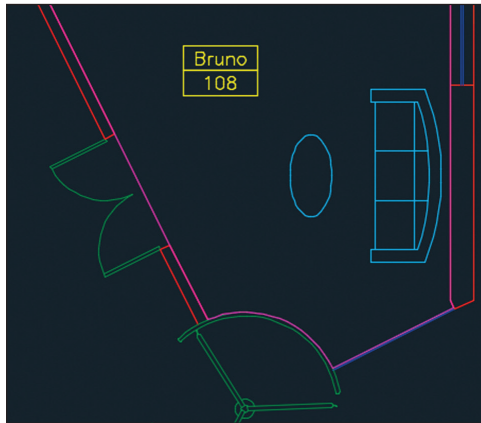

FIGURE 15.14 Inserting a block and entering its attribute values
3. Click a point in the center of the room on the upper right. Press Enter to accept the default of 0 degrees if prompted to specify a rotation angle. In the Edit Attributes dialog box that appears, type **Bruno** in the Employee Name text box and type **108** in the Identification Number text area. The block reference appears in the room with the values you typed in (see Figure 15.14).